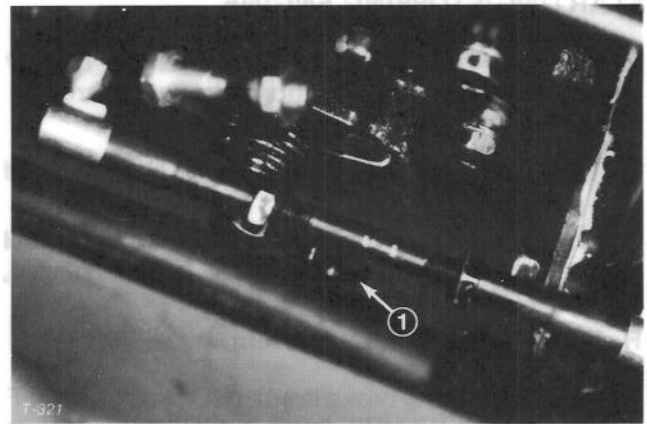

Figure 26
**Engine Stop Lever (Fig. 26)** — Located on the lower right side of the engine inboard of the air cleaner assembly. Provided as a means to stop the fuel flow, thereby stopping the engine, if an electrical malfunction should occur. Use only for emergencies.